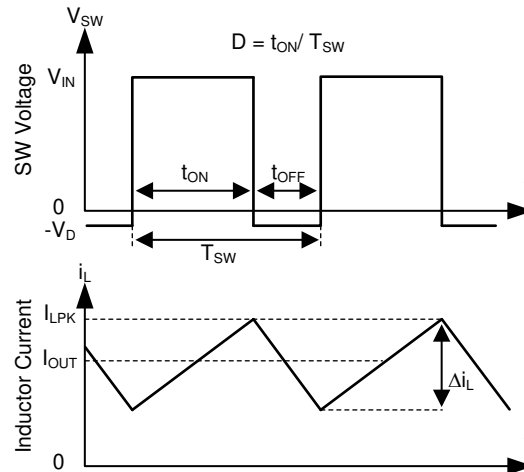

Figure 10-1. SW Node and Inductor Current Waveforms in Continuous Conduction Mode (CCM)
The following operating description of the TPS25846-Q1 will refer to the *Functional Block Diagram* and the waveforms in Figure 10-1. TPS25846-Q1 is a step-down synchronous buck regulator with integrated high-side (HS) and low-side (LS) switches (synchronous rectifier). The TPS25846-Q1 supplies a regulated output voltage by turning on the HS and LS NMOS switches with controlled duty cycle. During high-side switch ON time, the SW pin voltage swings up to approximately V_{IN} , and the inductor current i_L increase with linear slope $(V_{IN} - V_{OUT}) / L$. When the HS switch is turned off by the control logic, the LS switch is turned on after an anti-shoot-through dead time. Inductor current discharges through the LS switch with a slope of $-V_{OUT} / L$. The control parameter of a buck converter is defined as Duty Cycle $D = t_{ON} / T_{SW}$, where t_{ON} is the high-side switch ON time and T_{SW} is the switching period. The regulator control loop maintains a constant output voltage by adjusting the duty cycle D . In an ideal buck converter, where losses are ignored, D is proportional to the output voltage and inversely proportional to the input voltage: $D = V_{OUT} / V_{IN}$.